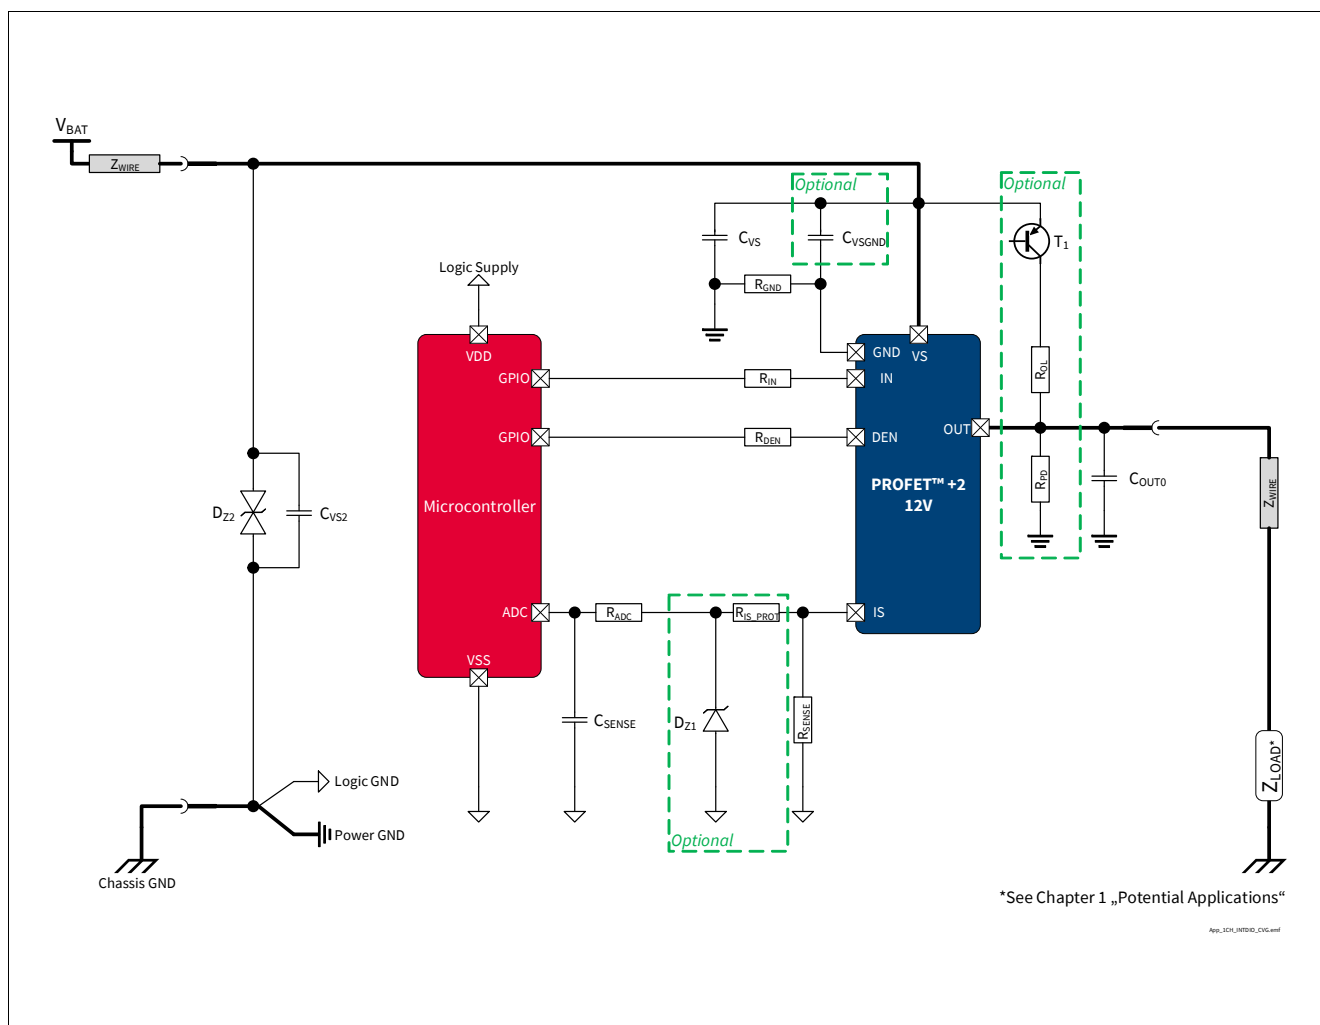

Figure 42 BTS7012-1EPA Application Diagram
1.02 , 2019-10-15	P_8.7.3.1, P_8.7.3.7, P_8.7.3.8 updated (added in Note or Test Condition: link to Figure 25) P_7.5.3.4, P_7.5.3.5 updated (added in Note or Test Condition: DEN = “low”; link to Figure 19) P_7.5.3.12 updated (added in Note or Test Condition: see Figure 21; deleted unnecessary space in Symbol: $dV_{OUT} / dt \rightarrow dV_{OUT} / dt$) P_8.7.3.6 updated (added in Note or Test Condition: see Figure 26) P_9.7.3.1 updated (added in Note or Test Condition: See Figure 34) P_9.7.3.6 updated (Min./Typ./Max.: -45%/4800/+45% → -34.0%/4785/+34.0%) P_9.7.3.9 updated (Min./Typ./Max.: -38%/4800/+38% → -25.0%/4785/+25.0%) P_9.7.3.12 updated (Min./Typ./Max.: -34%/4800/+34% → -22.5%/4785/+22.5%) P_9.7.3.15 updated (Min./Typ./Max.: -22%/4800/+22% → -12.5%/4785/+12.5%) P_9.7.3.17 updated (Min./Typ./Max.: -9%/4800/+9% → -7.7%/4785/+7.7%) P_9.7.3.19 updated (Min./Typ./Max.: -6%/4800/+6% → -4.5%/4785/+4.5%) P_9.7.3.21 updated (Min./Typ./Max.: -5%/4800/+5% → -4.0%/4785/+4.0%) P_7.5.3.11 updated (added in Note or Test Condition: see Figure 19) P_4.2.3.6 updated (Max.: 12 mJ → 15 mJ) Figure 1, Figure 42 updated Chapter 1 updated (or LED equivalent → or equivalent electronic loads (e.g. LED modules)) P_4.3.0.7 added Table 23 updated Chapter 5.1 updated (added: see Chapter 10 for the complete application setup overview)